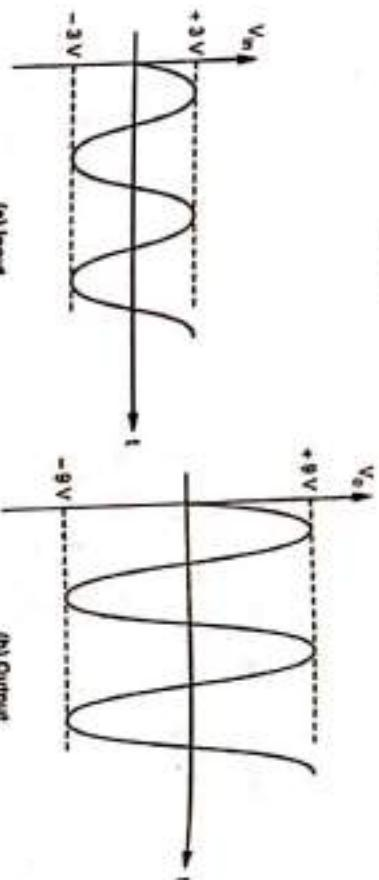

FIG. Q.48.2
- The peak value of output is 9 V. Note that input is sinusoidal with a peak value  $V_p = 3$  V. The input and output waveforms are shown in Fig. Q.48.2.